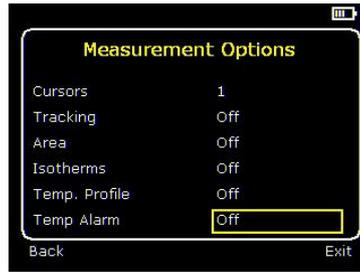

Fig. 3
3. Use the up/down navigation buttons  to move to the temperature alarm option (see Fig 3).